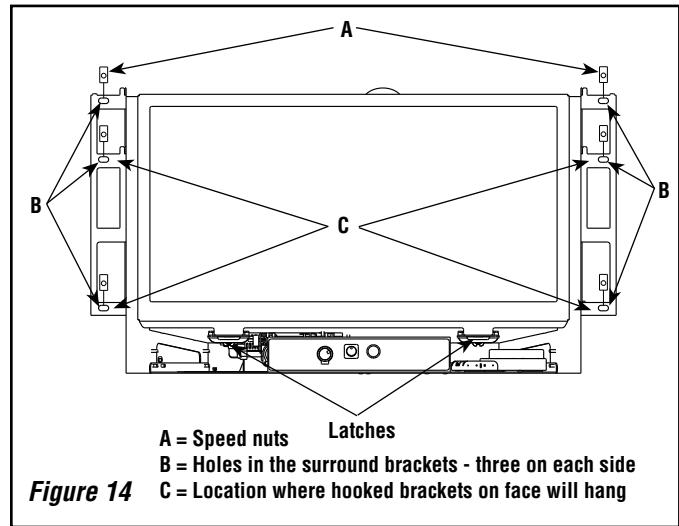

Figure 14
1. Remove the speed nuts (*A* in **Figure 14**) from the parts bag and install (with the flat surface forward) on the six holes in the surround brackets - three on each side of the insert (*B* in **Figure 14**). A flat bladed screwdriver may help in installing the nuts.
A number of different face finishes and styles are available for your appliance. The Arch face comes with a sight obstructor that must be installed prior to installing the surround panels and face. Instructions for installing the sight obstructor are included with the face. The faces come with hooked brackets. To install the face, hang the hooked brackets on the surround brackets (See C in **Figure 14**).